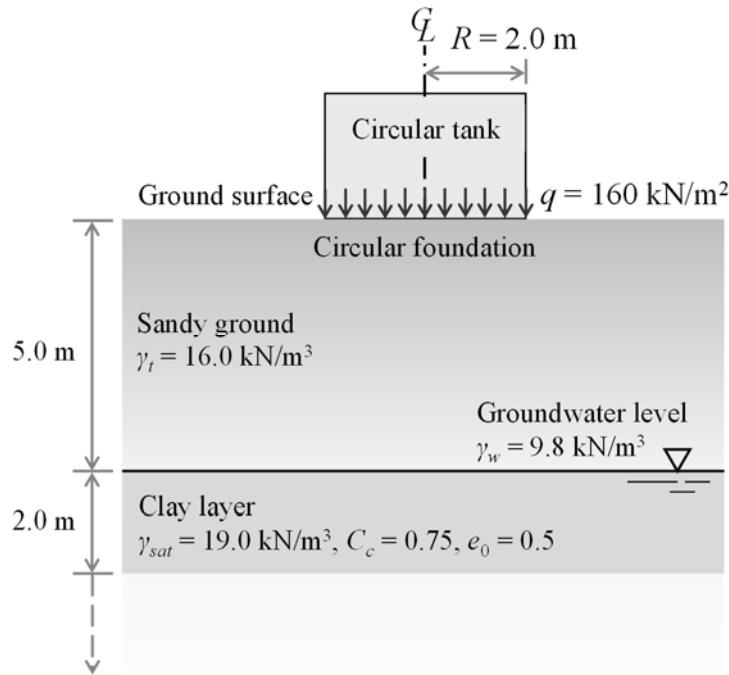

Figure 1
- (2) After completion of borehole drilling, a homogeneous and saturated 2-m-thick layer of normally consolidated clay was unexpectedly found between depths of 5.0~7.0 m. Laboratory tests on a clay sample showed that the saturated unit weight of clay  $\gamma_{sat} = 19.0 \text{ kN/m}^3$ , the initial void ratio  $e_0 = 0.5$  and the compression index  $C_c = 0.75$ . Given the unit weight of water  $\gamma_w = 9.8 \text{ kN/m}^3$ , find the consolidation settlement of 575a circular tank if the groundwater level is located at the same level as a clay layer as shown in Figure 1. Note that, immediate settlement of ground can be neglected and the stress state at the middle of the clay layer can be used in calculation of one-dimensional consolidation settlement.